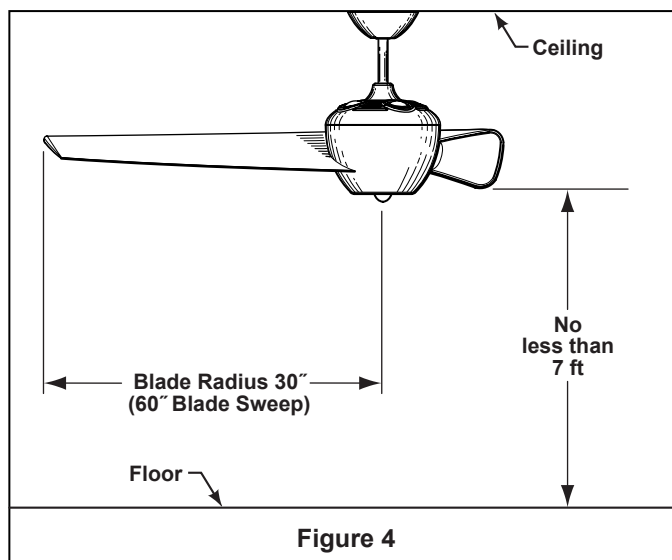

Figure 4
11. Install four MR-11 Halogen Bulbs in light sockets on top of the fan. (Figure 4) See page 9 on how to remove the light bulbs.
The fan must be hung with at least 7' of clearance from floor to blades (Figure 4)